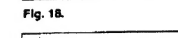

Fig. 18.
- 4 Using Δ or ∇ , select the programme position which you want to skip and press OK. The "SYSTEM" position changes colour. (See Fig. 18.)
- 5 Press Δ or ∇ until --- appears in the SYSTEM position. (See Fig. 18.)